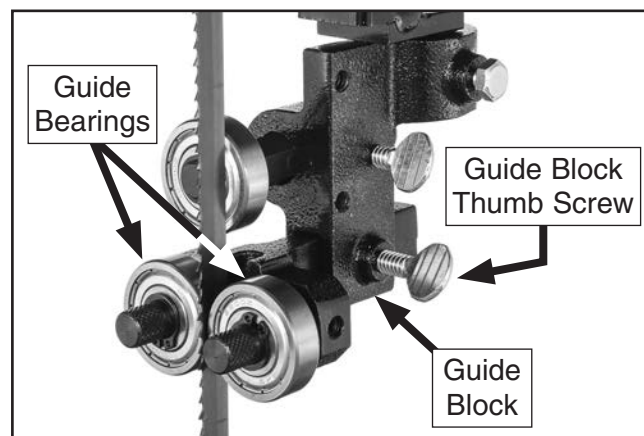
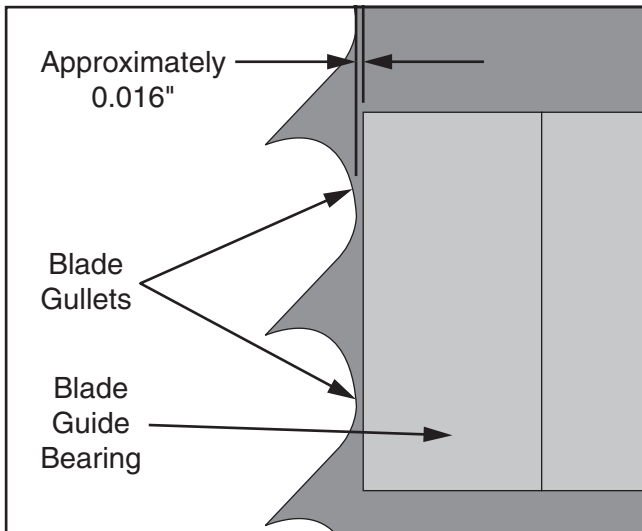

Figure 21. Upper guide bearing components.
Figure 22. Blade guide bearing positioned just behind blade gullets.
2. Loosen guide block thumb screw shown in **Figure 21**, then position guide bearings just behind blade gullets, as illustrated in **Figure 22**. Retighten screw to secure setting.